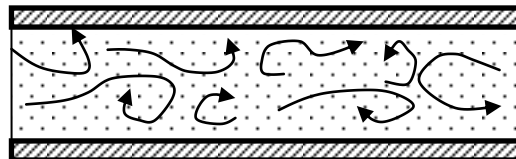

Figure 1.3 Turbulent flow
2. **Turbulent flow:** It is illustrated in Fig.1.3. It is characterized by a fluid flowing in random way. The movement of particles fluctuates up and down in a direction perpendicular as well as parallel to the mean flow direction.